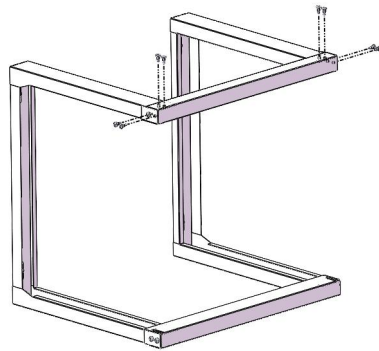

Figure 2
2. Insert the Top Crossbeam into left U Type Support and right U Type Support, Secure with 8pcs M5 assembly fix Screws .See Figure 2.